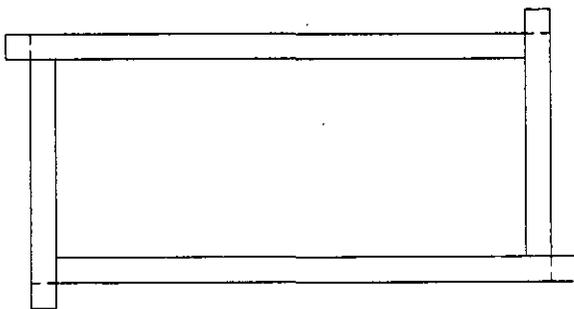

Figure 2 - Gasket Strips
A. Disassemble UltraStrip unit, placing trays, gasket sides up, on clean surface. Observe corner pattern of gasket seal (Figure 2)
G. Cut one set of gaskets (two ends, two sides and one inner piece) 1/2" longer than tray dimensions. (See Figure 2.) Gasket ends must be square. Position gaskets strips on a flat surface, smooth sides down, porous sides up.
I. Carefully position gasket onto flange (adhesive sides together), as shown in Figure 2. Do not pull or stretch gaskets. Trim overlaps as shown.